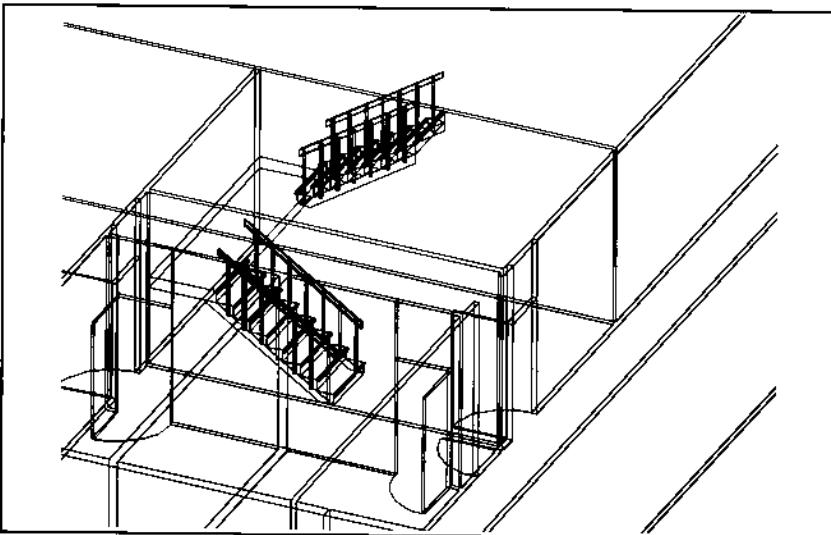

Figure 70.
8. Accept the default handrail height (although it does not meet code requirements) with balusters. Enter 8 steps for both top and bottom runs, with no step at the mid-landing. A partial isometric view is shown in Figure 70.